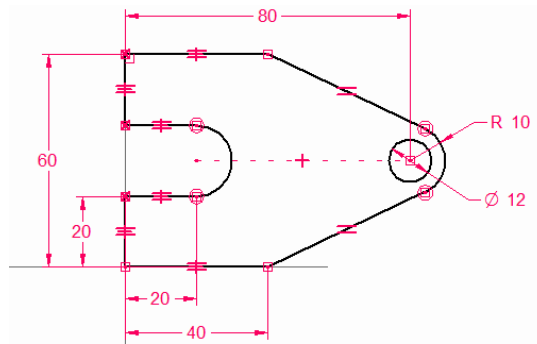

Figure 3-44 Profile after adding all dimensions
- Add the required relationships and dimensions to the sketch, refer to Figure 3-44.
This completes the dimensioning of the profile. The profile after adding all required dimensions is shown in Figure 3-44.